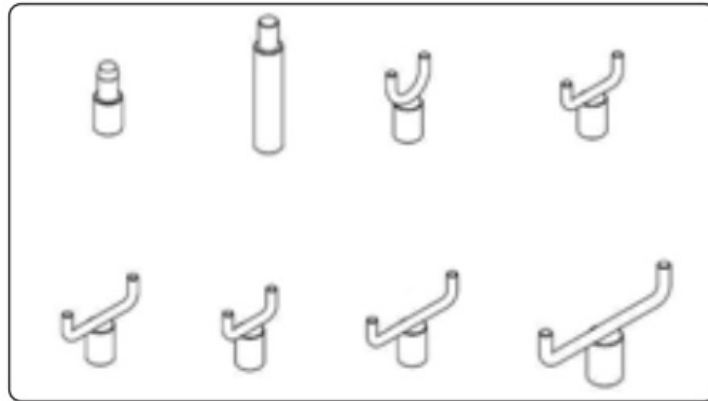

fig.2
- 5.2. Select the relevant saddles (fig.2), slide over Tool posts and adjust heights to suit the load using the tool post Hand wheel.